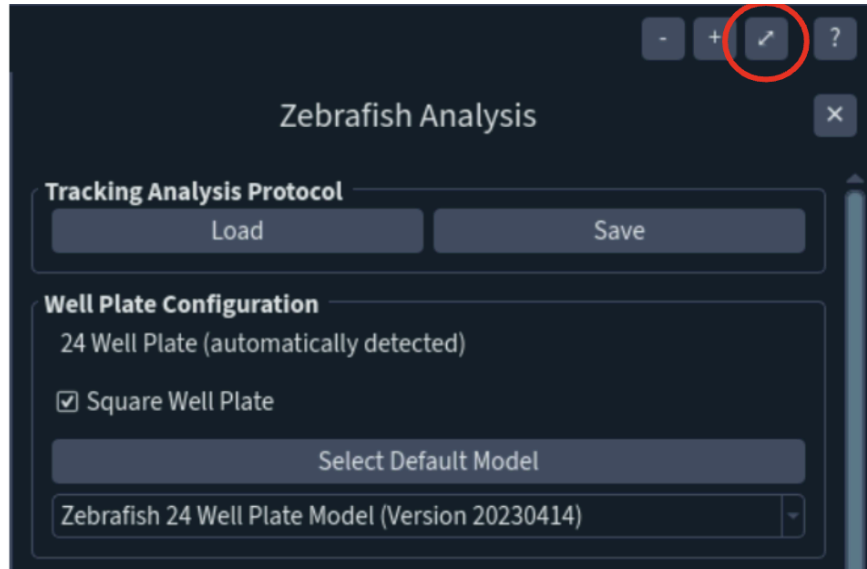

Fig 75: Full composite button.
- 5) To quickly fit the FOV to the full composite press the following button (Fig 75):